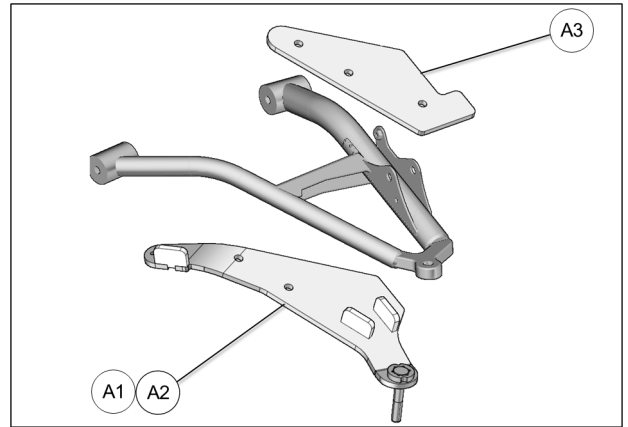

Fig. 17
5. Position bottom part of anchor bracket (A1-A2) under lower suspension arm. Position top part (A3) over suspension arm. Fig. 17